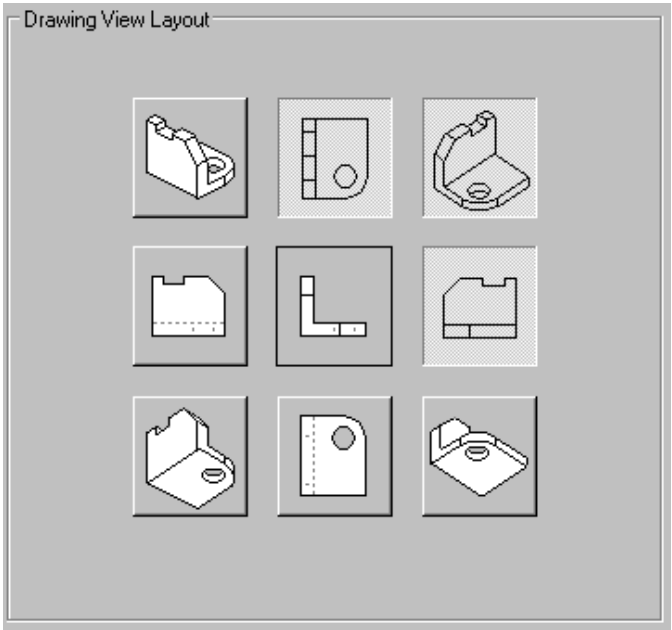

Figure 12-33 The **Drawing View Layout** page of the **Drawing View Creation Wizard** dialog box
5. Select the views shown in Figure 12-33 from the **Drawing View Layout** page and then choose the **Finish** button.